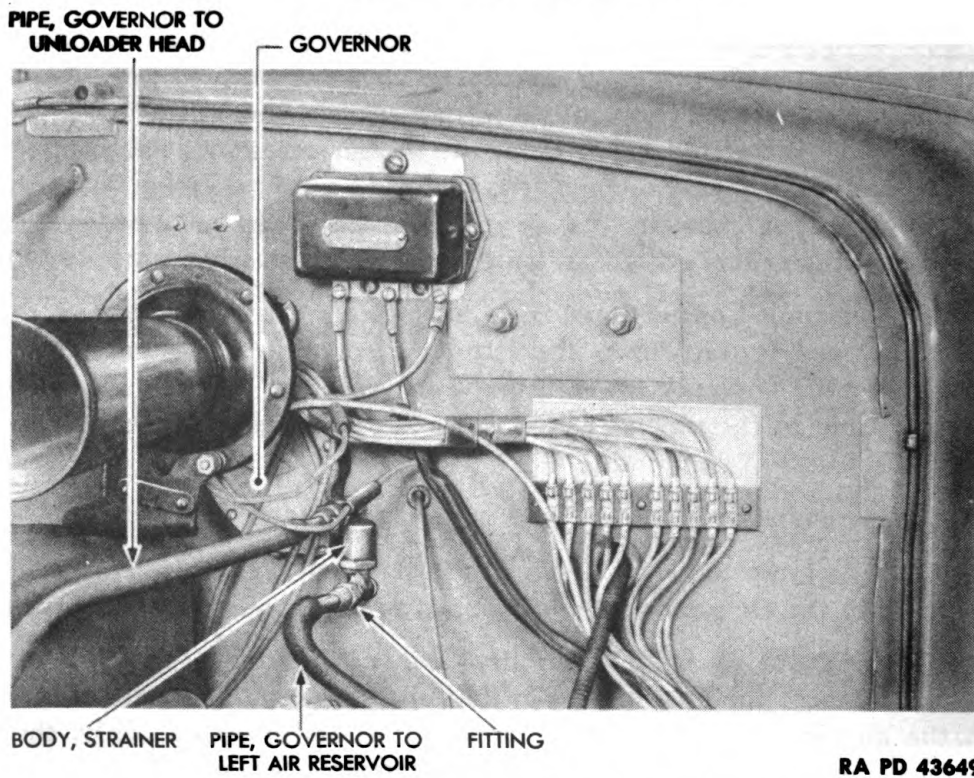

Figure 40—Governor Mounted on Dash
a. Governor Mounting. The governor is mounted on the engine side of the dash (fig. 40) and is accessible for service operations by lifting the hood.
(1) DISCONNECT AIR PIPES (fig. 40).
(b) Disconnect the governor to unloader head pipe at the governor ($\frac{5}{8}$ -in. open-end wrench) (fig. 40).